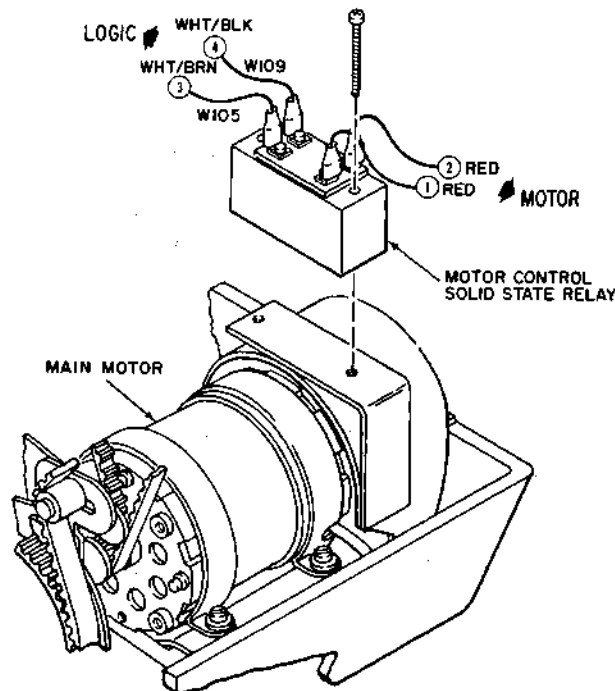

Figure 5-25. MOTOR CONTROL LOCATION AND INSTALLATION
2. Disconnect wht/blk and wht/brn wires (coming from the logic wiring harness) to terminals 3 and 4 on the relay (See Fig. 5-25).
3. Disconnect two red wires coming from power wiring harness at back of motor (BD-1), to terminals 1 and 2 from the relay (See Fig. 5-25).